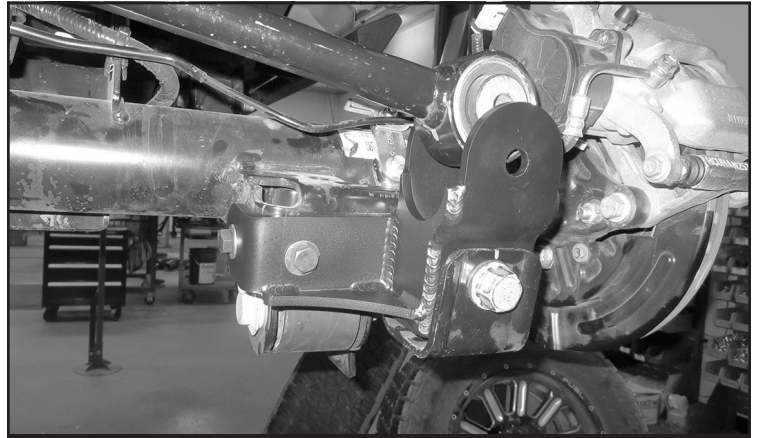

FIGURE 3 - STEP 4
4. Reinstall the new Fabtech bracket using the factory bolt and the supplied 7/16" hardware. Torque the factory bolt to 160 ft-lbs and the 7/16" hardware to 65 ft-lbs. **SEE FIGURE 3**